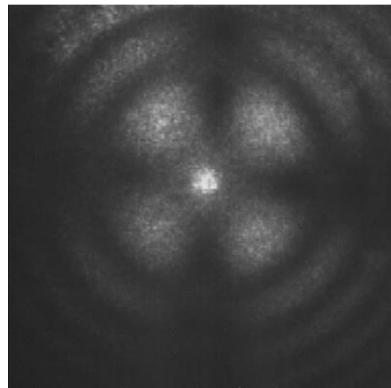

Figure 21 Depolarized 'cross'
4. Look through the rear mirror (*RM*) of the laser. You should see a dark cross like in Figure 21. If you see an illuminated cross instead, rotate one thin film polarizer by 90 degrees.